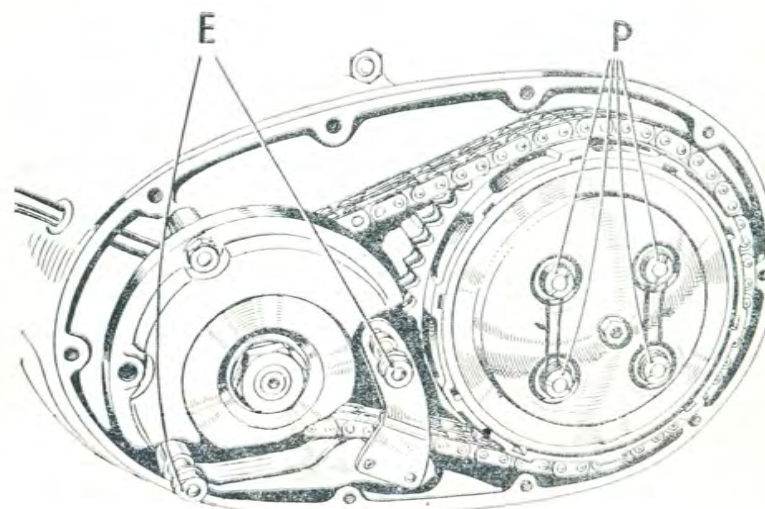

FIG. 19. The primary chain and clutch.
When the two lower generator retaining nuts (E) Fig. 19 are slackened, the position of the slipper can be altered to give the correct tension.
Whenever the clutch has been dismantled, the spring pressure must be reset carefully. The four retaining nuts (P) Fig. 19, should be screwed in until the underside of the head of each nut is approximately $\frac{1}{16}$ in. from the face of a spring cup. The figure is an arbitrary one and it is a simple matter to vary it according to circumstances. If the springs are compressed excessively, the handlebar lever will be stiff to operate and tiring to the hand; alternatively, if the spring pressure is insufficient, the clutch will tend to slip.